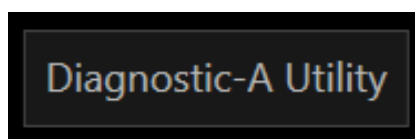

Fig. 8 - 'Diagnostic-A Utility' Button
④ **Diagnostic A-Utility:** To start the Diagnostic A-Scan application, select the 'Diagnostic A-Utility' button (Fig. 8).